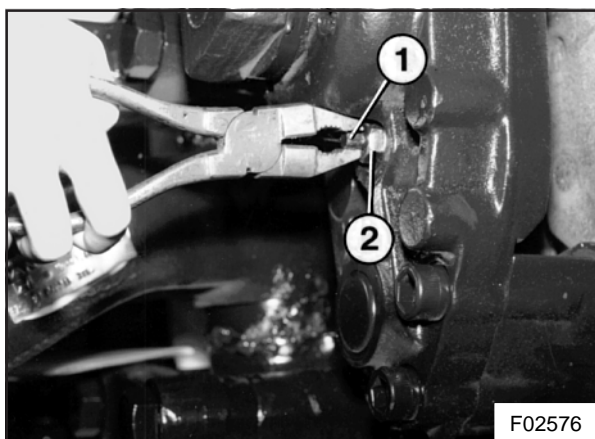

Figure 3 : Pulling back the adjuster stem with combination pliers
4. Pull the adjuster stem back (1, Figure 3), until a stop is felt.
**PREVENT ROTATION OF THE ADJUSTER STEM (1) BY USING A 7 MM WRENCH, WHEN TIGHTENING LOCKNUT (2).**